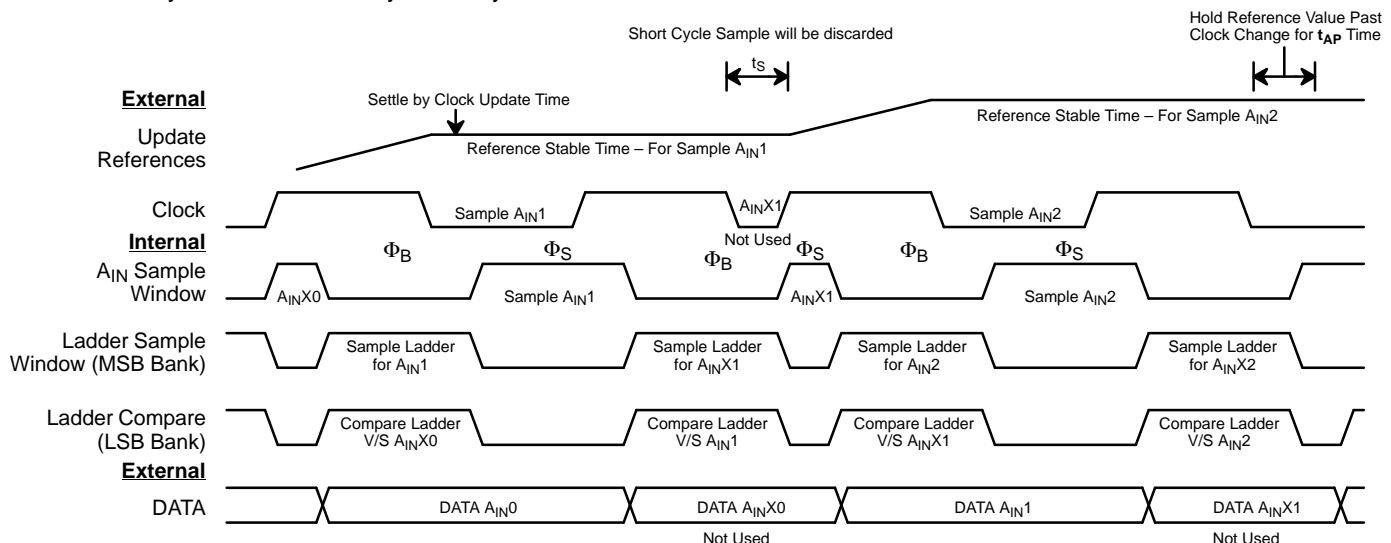
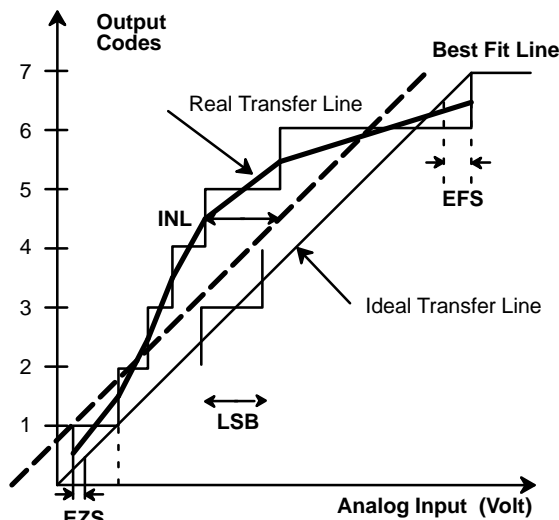

Figure 3. A_{IN} Sampling, Ladder Sampling & Conversion Timing
Figure 7. INL Error Calculation
- Tester measures code transition voltages by dithering the voltage of the analog input (V_{IN}). The difference between the measured code width and the ideal value ($V_{REF}/1024$) is the DNL error (see Figure 3.). The INL error is the maximum distance (in LSBs) from the best fit line to any transition voltage (See Figure 7.).
Figure 3. shows this relationship as a timing chart. A_{IN} sampling, ladder sampling and output data relationships are shown for the general case where the levels which drive the ladder need to change for each sampled A_{IN} time point. The ladder is referenced for both last A_{IN} sample and next A_{IN} sample at the same time. If the ladder's levels change by more than 1 LSB, one of the samples must be discarded. Also note that the clock low period for the discarded A_{IN} can be reduced to the minimum t_S time of 150 ns.
Figure 7. gives a visual definition of the INL error. The chart shows a 3 bit converter transfer curve with greatly exaggerated DNL errors to show the deviation of the real transfer curve from the ideal one.